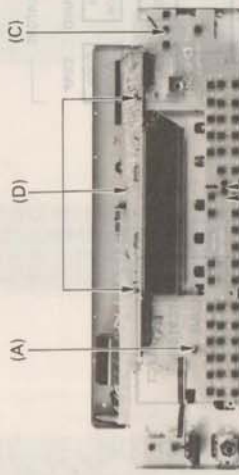

Fig. 1
2. Remove four plastic rivets (A)-(C) securing the front switch PCBs. (Fig.1)